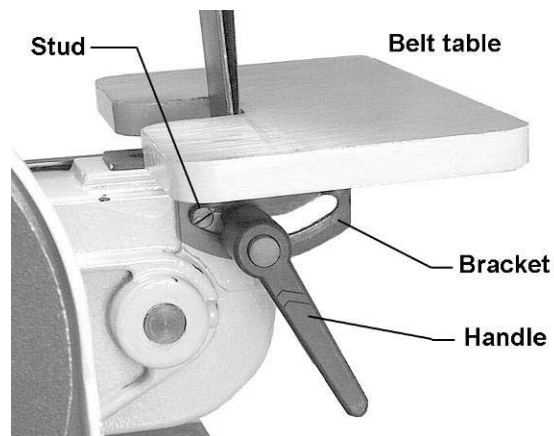

Figure 1
1. Unscrew the stud. See Figure 1.